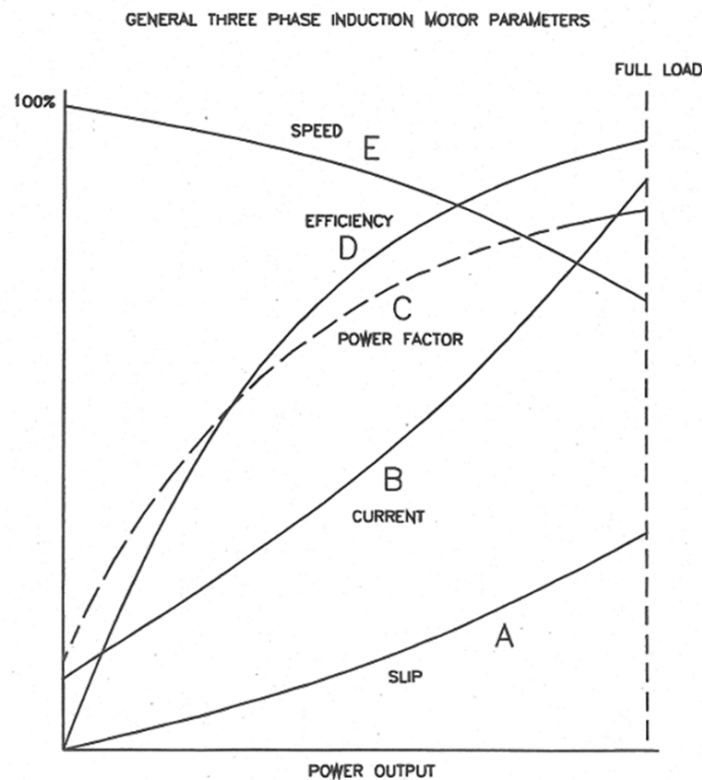

Figure 8 – Typical operating parameters.
55. Figure 8 shows a summary of the operating parameters of a typical three-phase squirrel cage induction motor.
Note: In Figure 8, the left-hand Y-axis is the synchronous speed of the magnetic field of the motor, the right-hand Y-axis is the full load rotor speed.